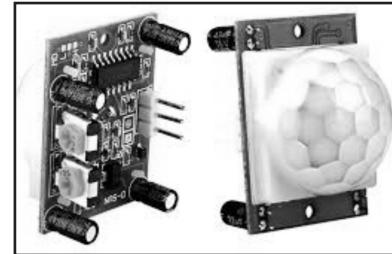

Fig. 4.12: PIR sensor
- PIR sensor detects change in the infrared radiation. PIR sensor is shown in below Fig. 4.12.